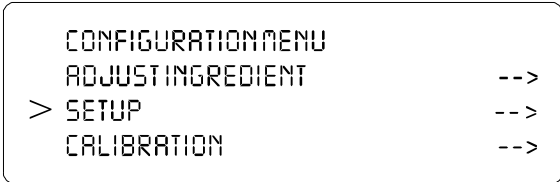

FIG. 38: CONFIGURATION MENU/SELECTING SETUP
- Step 1. At the front panel click on the Setup button. The Configuration Menu appears. (See Fig. 38)
- Step 2. Push the up or down arrows until the cursor is next to “SETUP”. (See Fig. 38)